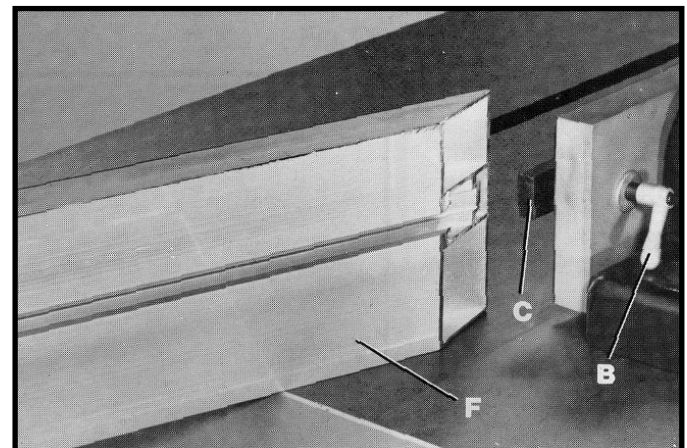

Fig. 21
5. Loosen locking lever (B) Fig. 21, and slide rear of fence half (F) onto locking bar (C). Assemble remaining fence half in the same manner. Then tighten locking lever (B).